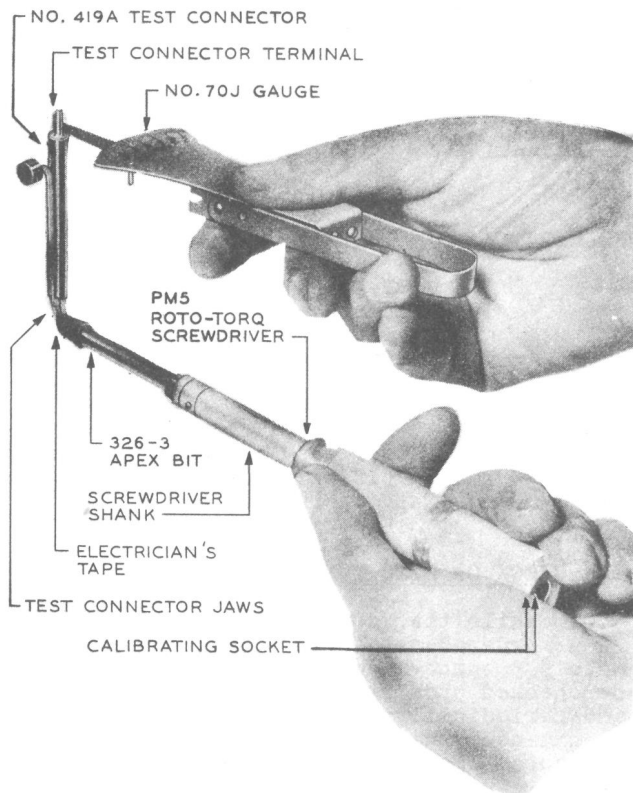

Fig. 1 - Method of Checking Roto-Torq Screwdriver
3.02 Wrap about two turns of a strip of electrician's tape 1/4 inch wide around the blade of the bit inserted in the roto-torq screwdriver as shown in Fig. 1. Then attach the No. 419A test connector to the blade with one jaw between the tape and one side of the blade, and the other jaw outside the tape on the other side of the blade. The test connector should be at right angles to the blade.
in Fig. 1. Make sure that the hand does not touch the screwdriver shank. Hold the gauge against the test connector, turn the screwdriver handle clockwise, and note the gauge reading when the screwdriver clicks. The click indicates the torque setting of the screwdriver. The click should occur between gauge readings of 45 and 65 grams, which correspond to torques of 4.3 and 6.3 ounce-inches respectively.